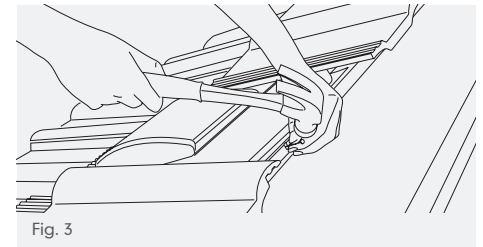

Fig. 3
- 5 Place the tile vent into position centrally over the overall width of the tile below, ensuring the 'nib' is resting squarely against the back face of the tiling batten. Secure the vent tile by nailing through the slot in the 'nib' into the back face of the tiling batten using a 25mm long x 3mm dia. non-corrosive nail (galvanised steel, aluminium or stainless steel), Fig. 3.